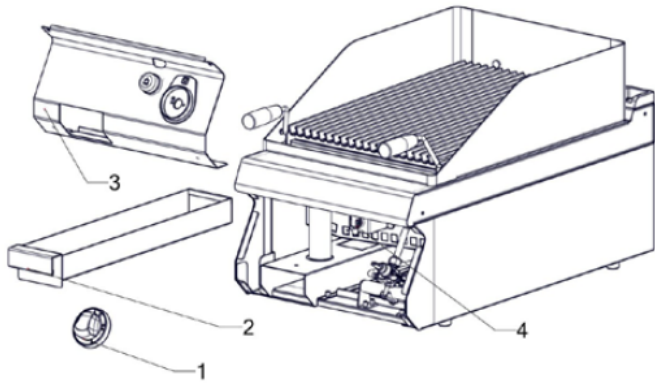

fig. 2
- 6) According to the illustration (fig. 2), unscrew the nozzle from the main burner and replace it with nozzles conforming to the "TECHNICAL DATA" table.